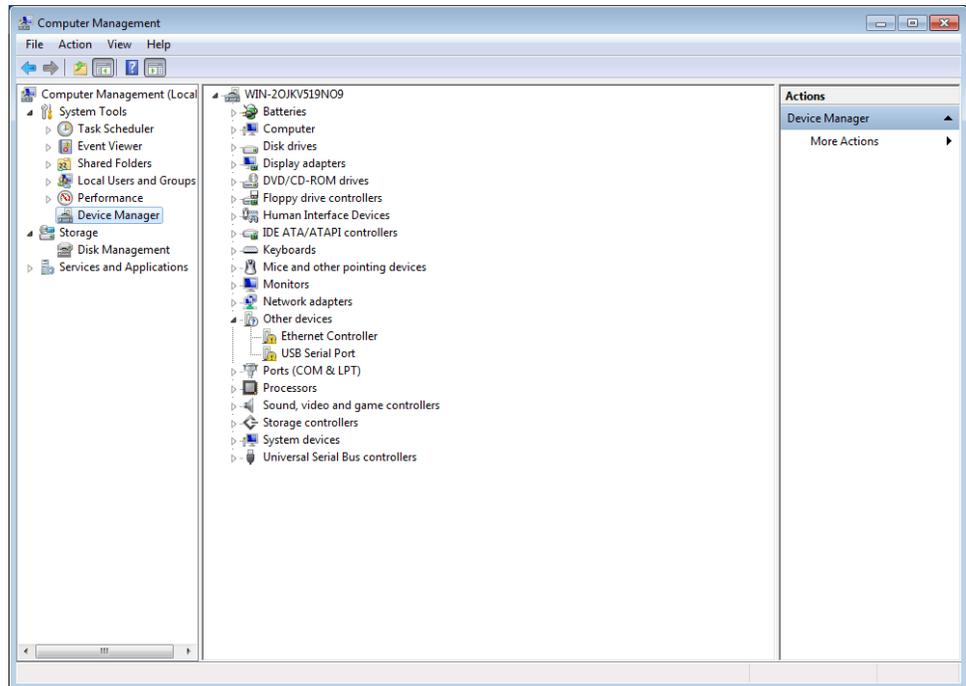

Figure 5 – Driver Installation Step-by-Step – Device Manager
- 2nd step: on the next window, the user must look for the **Device Manager** option. See Figure 5.